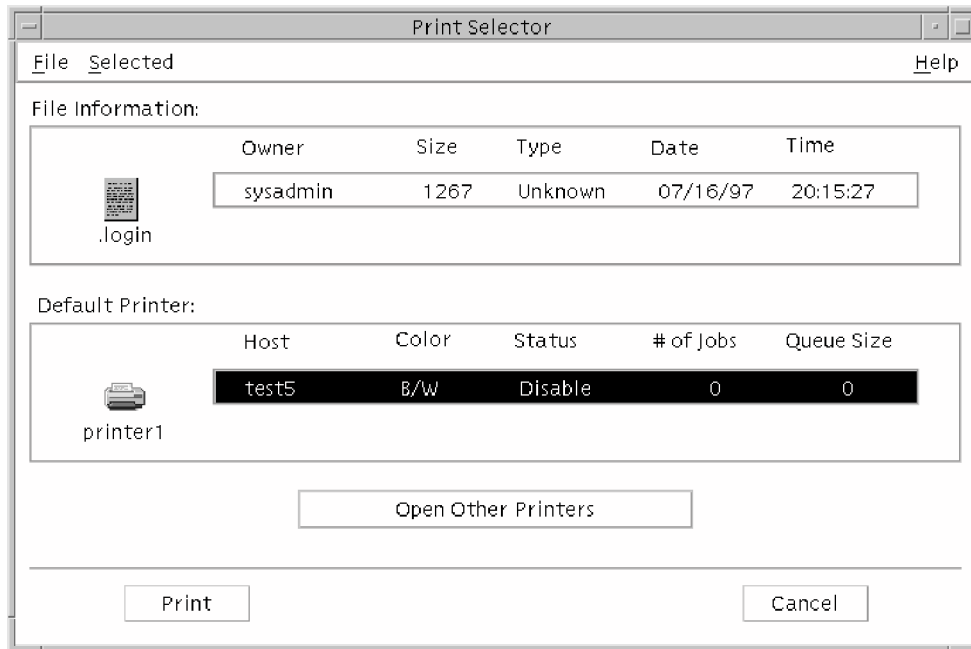

Figure 4. Print Selector Window
- STEP 2: **Move the file you wish to print to the `Printer` control.** In the `File Manager` window, highlight the file you wish to print, drag it (hold down the middle mouse button) to the `Printer` control in the CDE front panel, and drop it (release the mouse button). The `Print Selector` window appears (Figure 4), unless you have previously selected a “Specified” printer for easy access (see Section 6.2.1.2.2, *Creating a Specified Printer on the CDE Front Panel*).